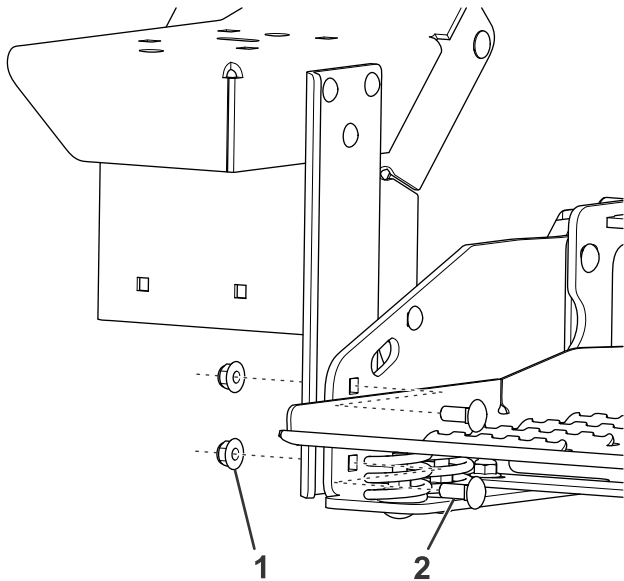

Figure 4
8. Secure the bottom of the left vertical bracket to the operator platform using 2 bolts (3/8 inch) and flange nuts (Figure 4).